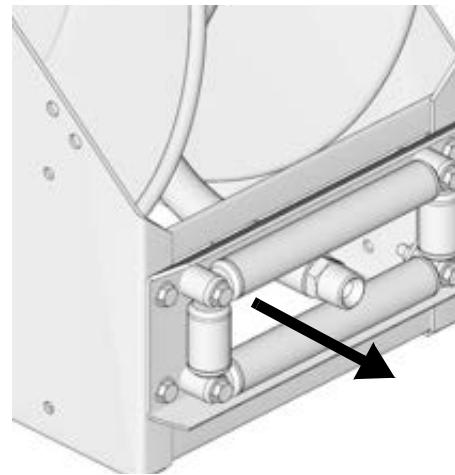

FIG. 16
13. Route the end of the hose through the hose rollers (FIG. 16).